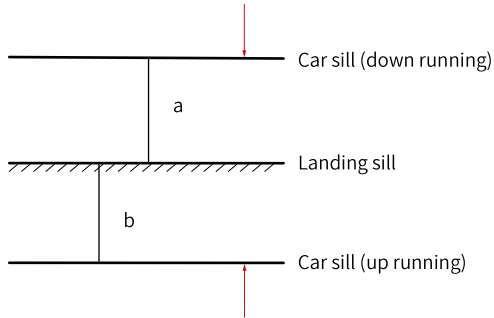

Figure 5-17 Under-leveling
1. For under-leveling (as shown in "Figure 5-17" on page 72), add H ($H = (a + b)/2$) to F4-00.